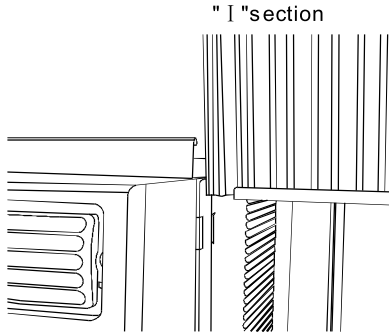

Fig. 2
- B. Slide the free end " I " section of the panel directly into the cabinet as shown in Fig. 2. Slide the panel down. Be sure to leave enough space to slip the top and bottom of the frame into the rails on the cabinet.